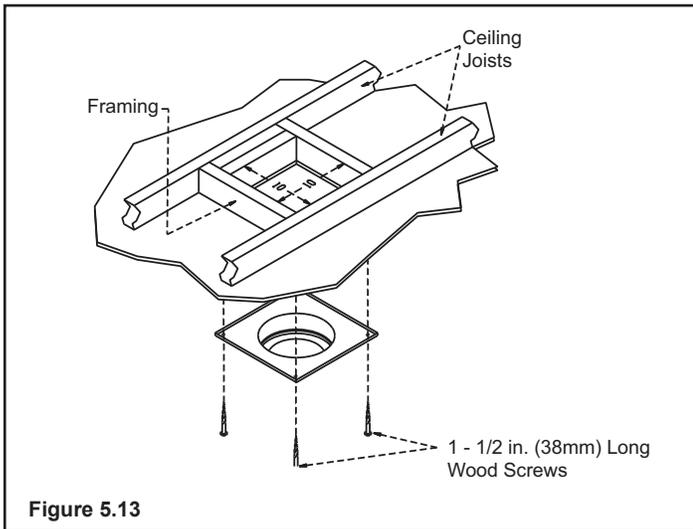

Figure 5.13
To install the round support box/wall thimble cover in a flat ceiling, cut a 10 in. (254mm) square hole in the ceiling, centered on the hole drilled in Step 2. Frame the hole as shown in **Figure 5.13**.
**Note:** For multi-story vertical installations, a ceiling firestop is required at the second floor, and any subsequent floors (**Figure 5.16**). The opening should be framed to 10 in. x 10 in. (254mm x 254mm) inside dimensions, in the same manner as shown in **Figure 5.13** on page 16.